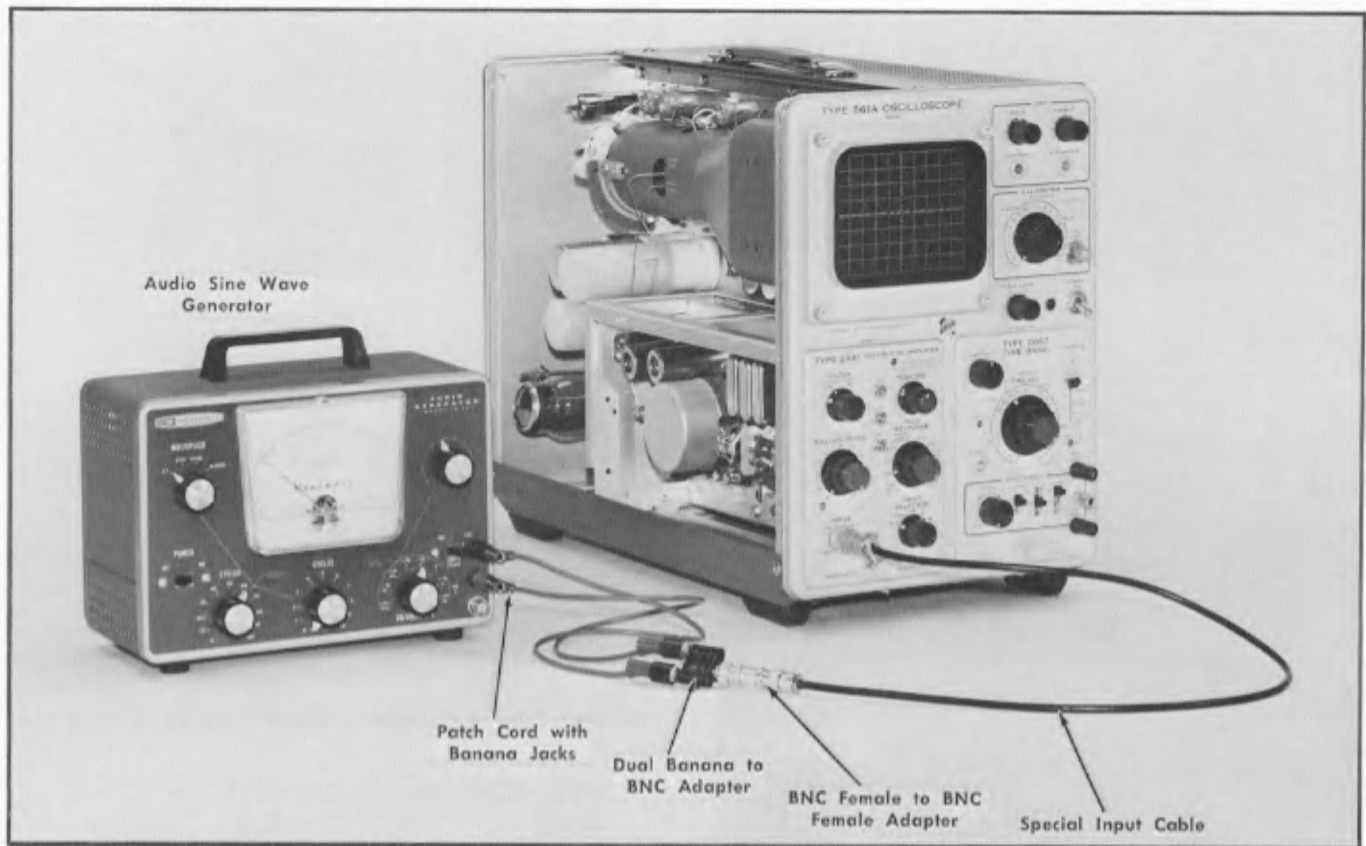

Fig. 6-31. Initial test equipment setup for step 21.
- a. Test equipment setup is shown in Fig. 6-31.